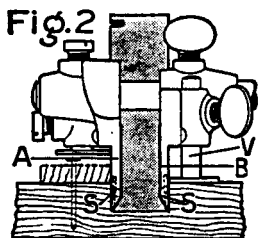

Fig. 2
Fig. 2—DADO—Move Sliding Section (B) up to cutter until its Spur (S) is directly in line with the left edge. Attach extra Gauge (V) to Sliding Section to gauge depth. A batten is used for gauging position of dado.